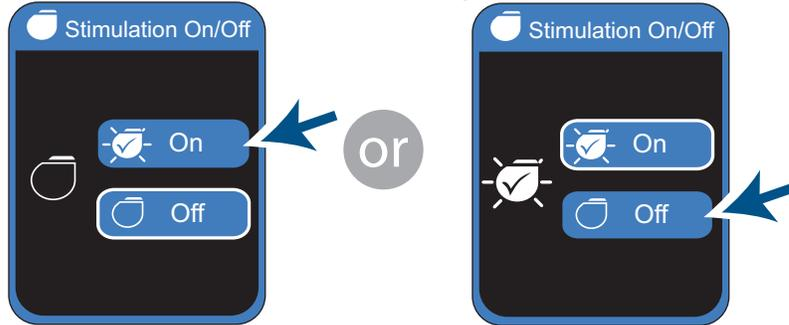

Figure 9. Turning stimulation on or off
2. Tap  or  to turn stimulation on or off (Figure 9).